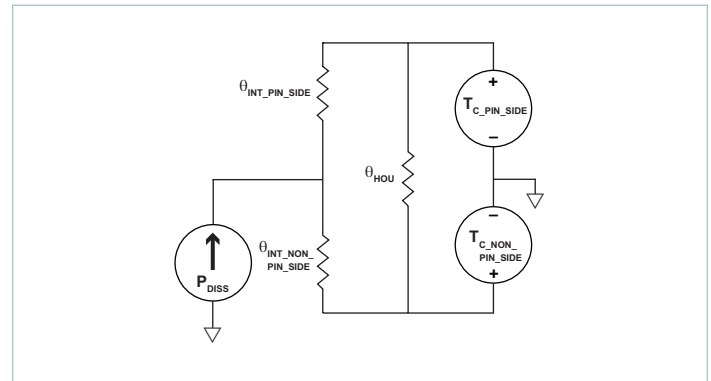
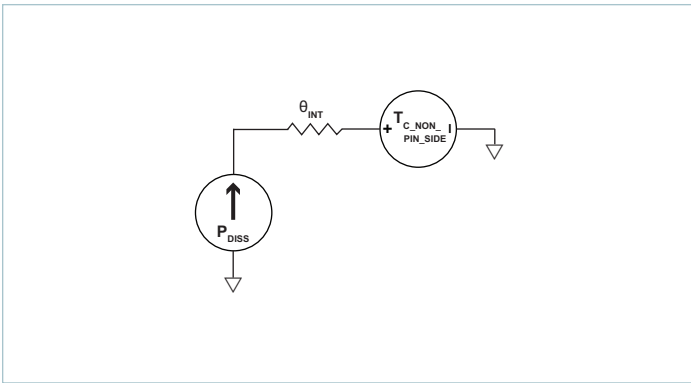

Figure 22 — Double-sided cooling thermal model
Figure 23 — Single-sided cooling thermal model
The VIA package provides effective conduction cooling from either of the two module surfaces. Heat may be removed from the pin-side surface, the non-pin-side surface or both. The extent to which these two surfaces are cooled is a key component for determining the maximum power that can be processed by a BCM, as can be seen from the specified thermal operating area in Figure 1. Since the BCM has a maximum internal temperature rating, it is necessary to estimate this temperature based on a system-level thermal solution. For this purpose, it is helpful to simplify the thermal solution into a roughly equivalent circuit where power dissipation is modeled as a current source, isothermal surface temperatures are represented as voltage sources and the thermal resistances are represented as resistors. Figure 22 shows the “thermal circuit” for the BCM in a VIA package.
- **Single-side cooling:** the model of Figure 22 can be simplified by calculating the parallel resistor network and using one simple thermal resistance number and the internal power dissipation curves; an example for non-pin-side cooling only is shown in Figure 23.